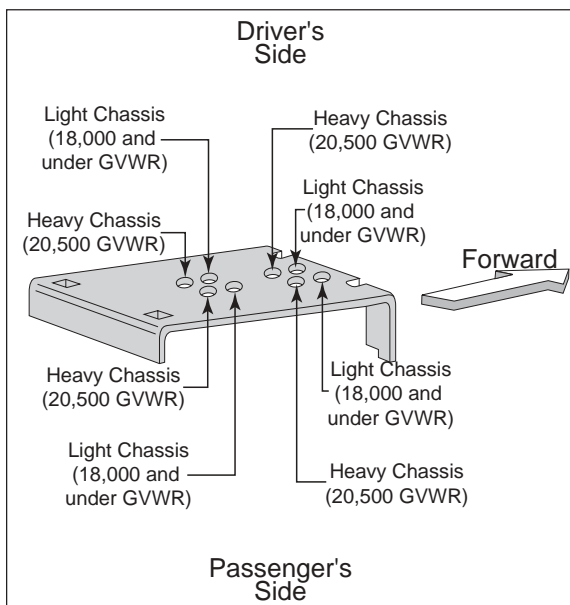

Figure 3
4. To find the proper air spring mounting holes on the lower bracket (Figure 3), place the template, provided on page 6, on to the top of the lower bracket (C). Be sure to line up the outside edges of the bracket to the outline on the template. Using the key on the template, determine and mark the correct mounting holes. The driver's side will use one of the sets of holes on the left side of the template/bracket, whereas, the passenger's side will use one of the sets of holes on the right side of the template/bracket.